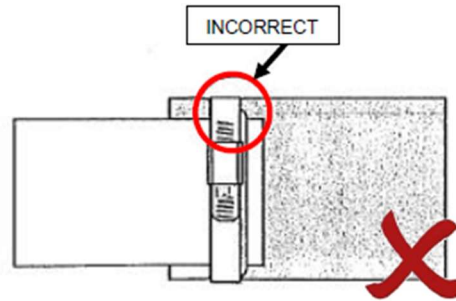

Figure 5
4.6 Do not install the clamp too close to the bead or on the bead it will cause leakage. (see Figure 5)